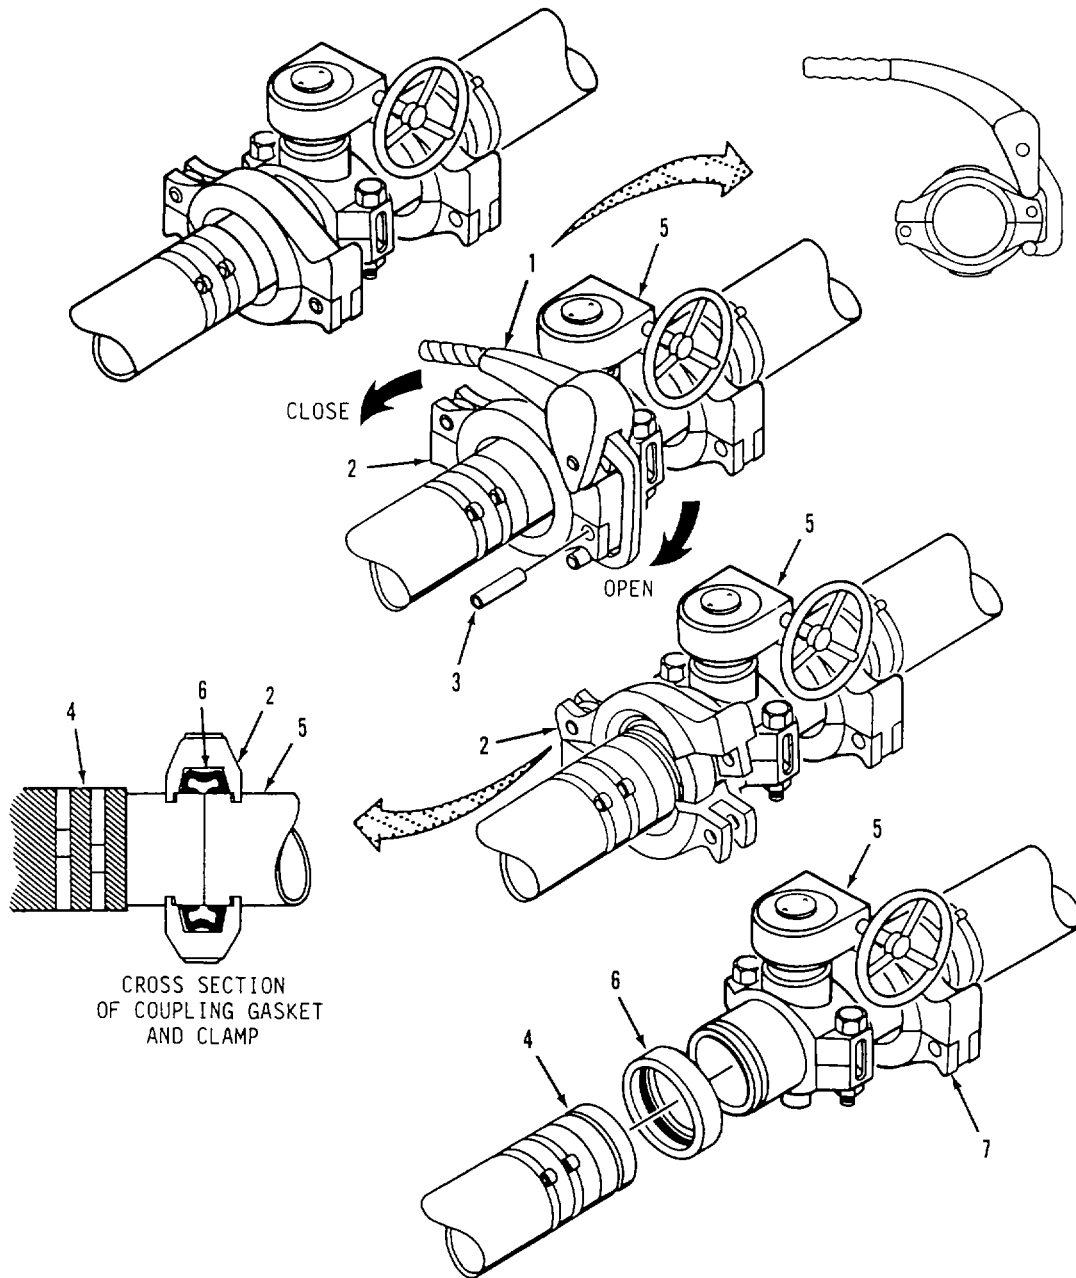

Figure 3-5. Coupling Clamp Component Installation.
b. Installation. Refer to figure 3-5.
- (1) Position replacement butterfly valve (5) in water system.
- (2) Apply a thin, even coating of lubricant to coupling gasket (6).
- (3) Slide gasket (6) over end of coupling on hose (4).
- (4) Align and mate ends of couplings on hose (4) and butterfly valve (5).
- (5) Slide coupling gasket (6) over ends of couplings on hose (4) and butterfly valve (5). Make sure gasket is positioned as shown.
- (6) Position one half of coupling clamp (2) over coupling gasket (6) and into grooves of couplings on hose (4) and butterfly valve (5).
- (7) Close other half of coupling clamp (2) over coupling gasket (6) while aligning clamp with grooves of couplings on hose (4) and butterfly valve (5) . Hold clamp in position.
- (8) Place assembly tool (1) on coupling clamp (2) . Move handle to closed position. As clamp is squeezed together, make sure coupling gasket (6) is not pinched under clamp. Assembly tool will lock in closed position when clamp is correctly seated.